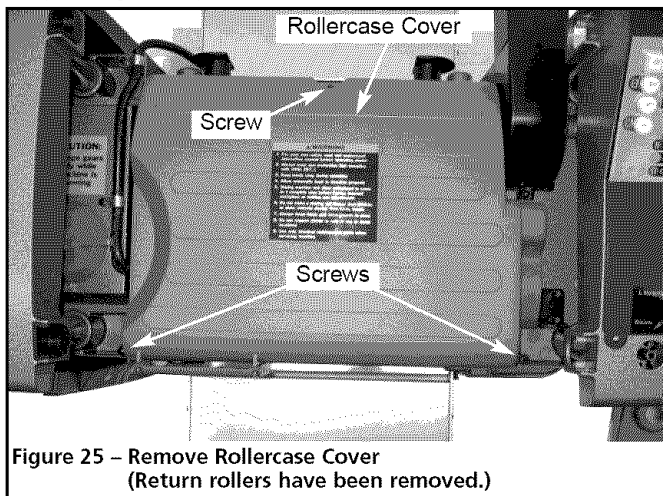

Figure 25 – Remove Roller Case Cover (Return rollers have been removed.)
- Remove the return rollers. Remove three (3) screws and lift the roller case cover up from the roller case (see Figure 25).